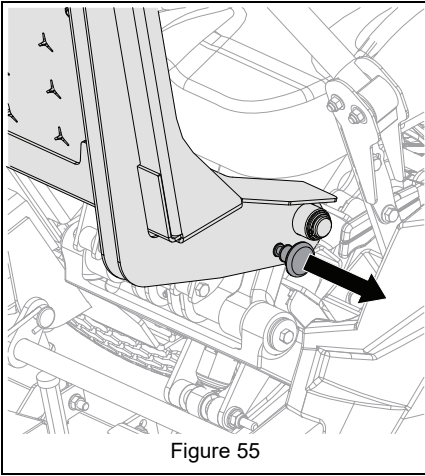

Figure 55
6. Pull footrest release knob to close footrest. See Figure 55.